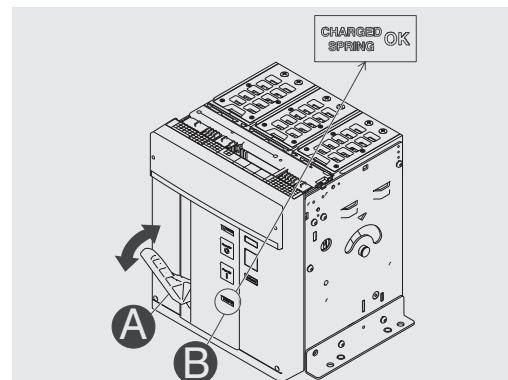

Figure 26
2. Loading the springs - Pull the lever [A] downwards several times until the springs loaded signalling device [B] is "yellow - CHARGED SPRING" as indicated in Figure 26.